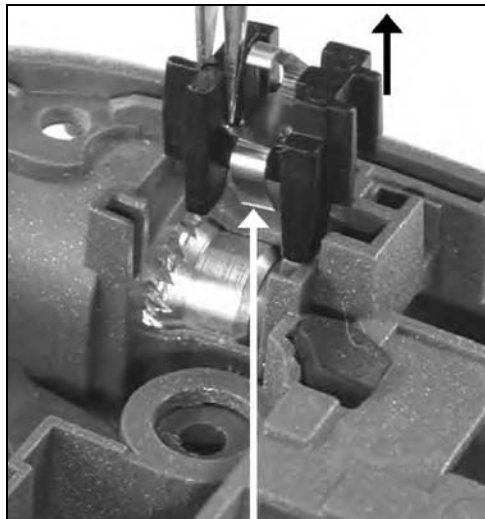

Figure 7-22.
3. Or, grasp on bushing with tweezers and pull straight out. See Figure 7-22.